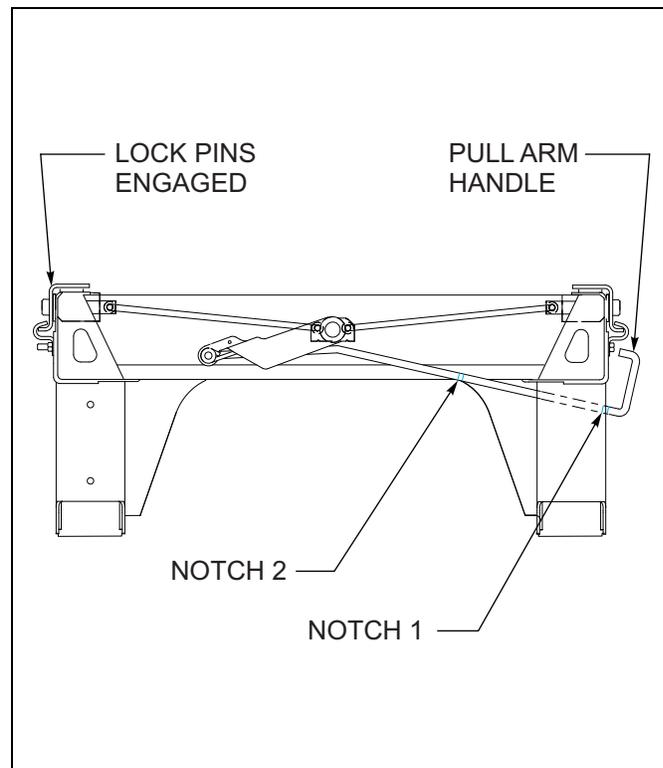
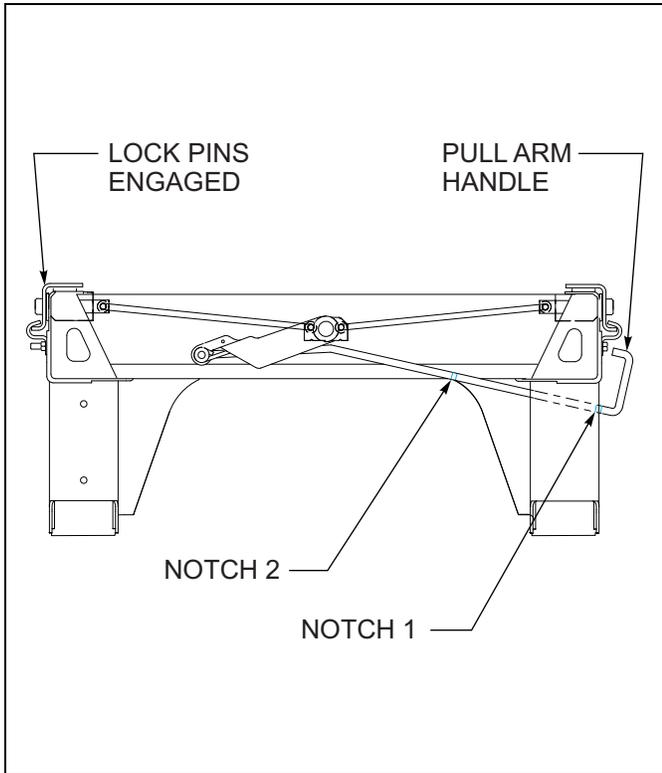

Figure 3-5: Engaged Position
Figure 3-6: Disengaged Position
3. Lift and pull the release arm handle from the engaged position (Notch 1 - See Figure 3-5) to the disengaged position (Notch 2 - See Figure 3-6.)
4. Visually check to ensure the lock pins are in the disengaged position, and that the release pull arm handle is locked (Notch 2 - See Figure 3-6.)
11. Lift and push the pull arm handle from the disengaged position (Notch 2 - See Figure 3-6) to the engaged position (Notch 1 - See Figure 3-5.)